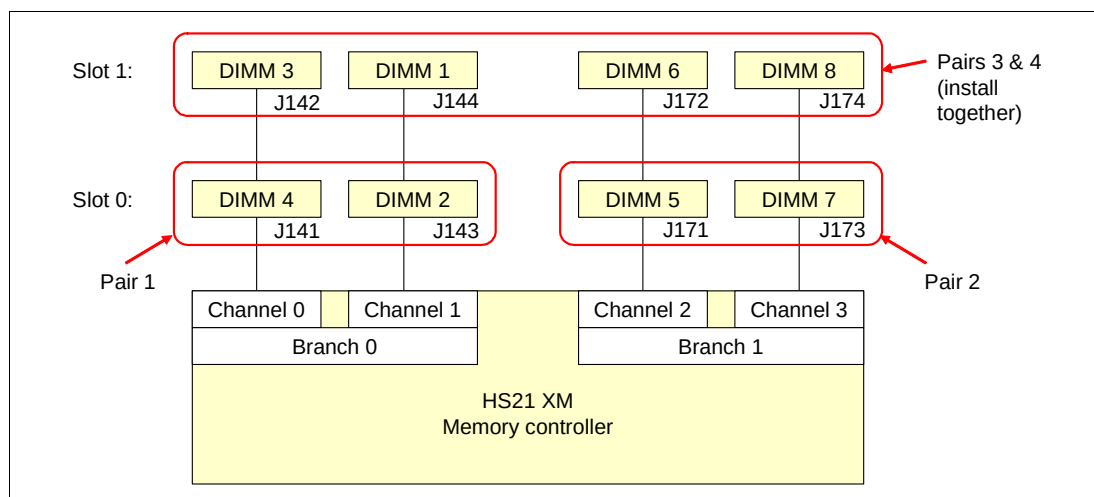

Figure 3-36 HS21 XM memory configuration
The logical memory DIMM configuration is shown in Figure 3-36 on page 279.
The standard HS21 XM models have two 512 MB DIMMs installed into sockets 2 and 4, as shown in Figure 3-36. The installation order is as follows:
In mirroring mode, the server maintains two identical copies of all data in memory. The contents of branch 0 (see Figure 3-36 on page 279) are duplicated in the DIMMs of branch 1. In the event of an uncorrectable error in one of the copies, the system can retrieve the mirrored copy of the data.
- ▶ To use memory mirroring, both branches (see Figure 3-36 on page 279) must be populated using identical DIMMs. This means that:
- DIMMs 2, 4, 5, and 7 (the row of DIMMs in Figure 3-36 on page 279 labelled Slot 0) must match.
The memory set aside for the spare memory is one rank per channel (see Figure 3-36 on page 279). The size of the rank (and therefore the amount set aside for sparing) varies depending on the DIMMs used, as listed in Table 3-13 on page 266.
- ▶ All DIMMs in a row (slot 0 or slot 1, as shown in Figure 3-36 on page 279, must match). For example, if you have four DIMMs installed (in sockets 2, 4, 5, and 7), they must be identical.